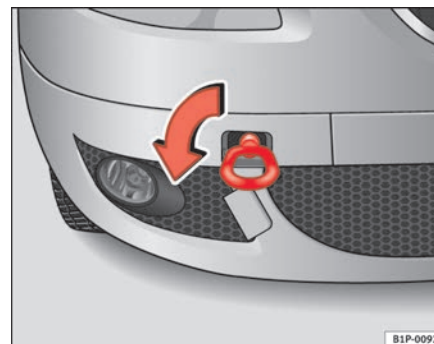
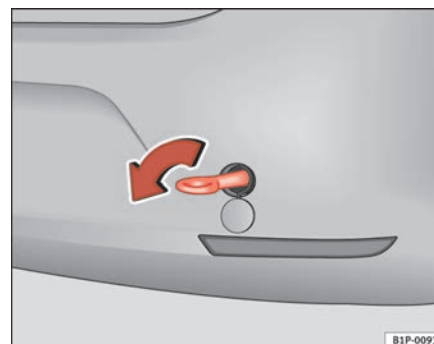

Fig. 177 The front right section of the vehicle: Fitting the front towing eye
Fig. 178 Fitting the towing eye to the rear of the vehicle
- Screw the towing eye as shown by the arrow *anti-clockwise* to the limit position in the front ⇒ page 257, fig. 177 or rear ⇒ page 257, fig. 178 threaded hole. ■